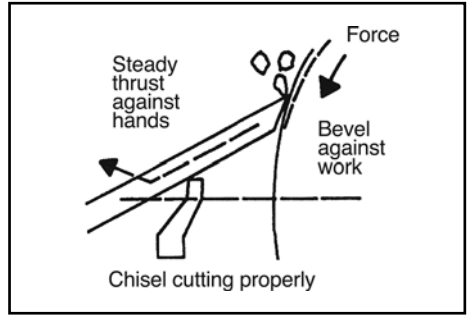

FIG. 15
10.5 POSITIONING THE TOOL REST FOR CIRCUMFERENCE TURNING – FIGS. 15 – 20
When turning, the object is to pierce the outer surface of the wood to a desired depth, then to hold the chisel steady with the bevel edge parallel to the work circumference, so that the chisel will peel off a shaving at this desired depth. The only sure method of holding the chisel steady is to rest the bevel against the workpiece, the tool rest will act as a fulcrum to support the chisel against the downward force of the revolving workpiece (Fig.15).